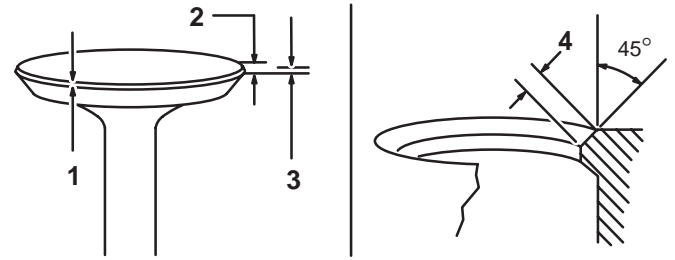

Fig. 53 – Valve and Seat Dimensions
2. Valve seat width should be as shown in Fig. 53.
4. Replace valve if margin is 1/64 inch (.39mm) or less or damaged, Fig. 53.